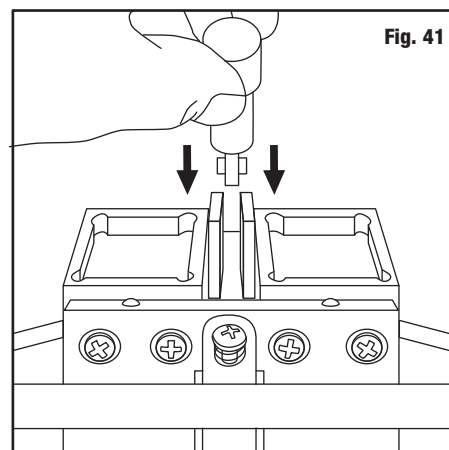

Fig. 41
2. Slide back of cutting tool into pivot bar slot until pin drops over end and into slot (Fig. 41).